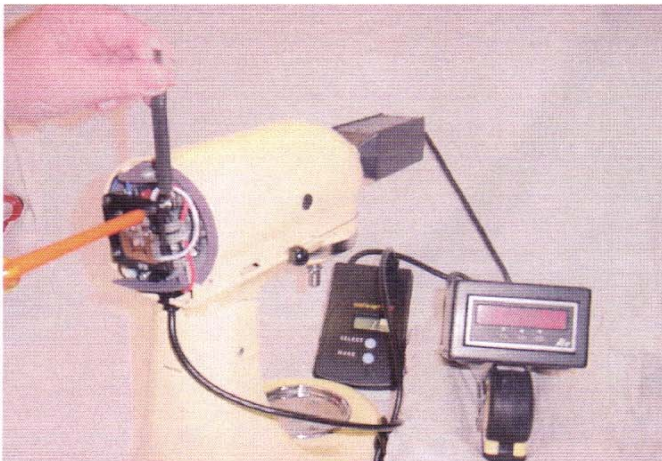

Fig. 78 Once proper speed setting has been obtained, lock the two 11/32" lock nuts.
D. When proper speed has been set, lock the two lock nuts using a 11/32” wrench (Fig. 78) and check the speed again.